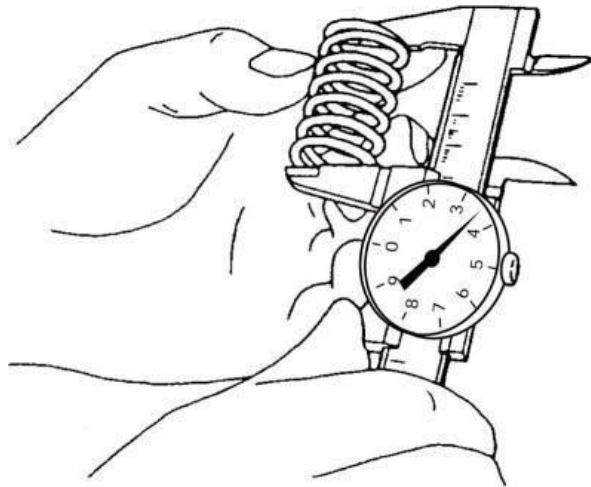

Figure 65. Valve Spring Measurement
5. Use a caliper to measure the length of the spring (Figure 65). See Valve Spring Mechanical chart for the service limit.